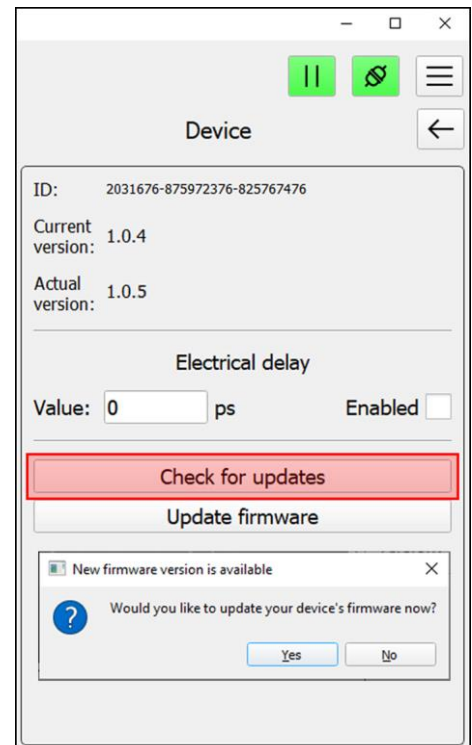

Figure 5.8-information about the device
5.6.1. Enter the «**Device**» section of the main menu (figure 5.8). Information about the device will be displayed on the screen:
- unique identifier (ID) of your device currently working with a PC.